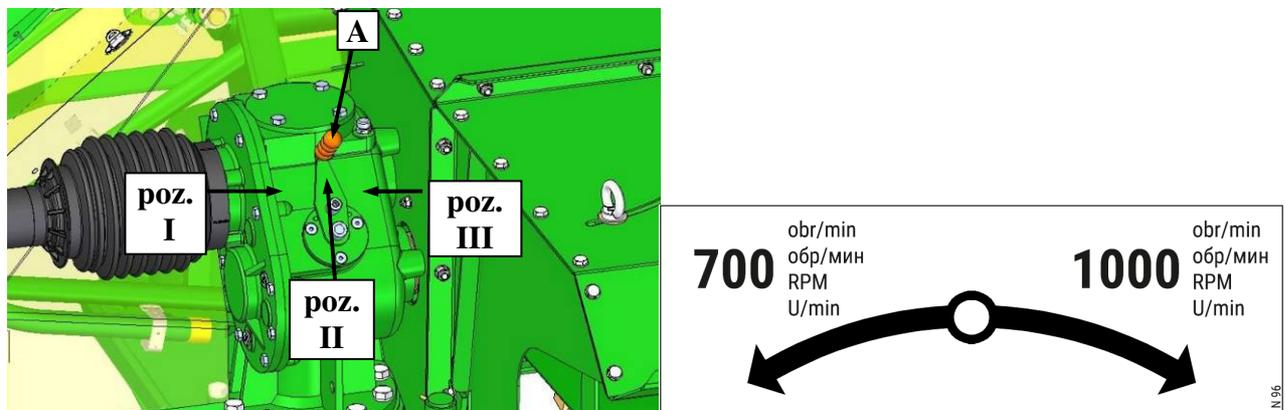

Fig. 37. Lever for adjusting conditioner's shaft rpm
Depending on the required intensity of grass conditioning, adjust the conditioner's shaft rotary rate. Speed of the conditioner roller can be adjusted between 700 and 1000 rpm using lever A (Fig. 37). To increase the shaft's rotary rate, switch lever (A) (Fig. 37) from I to III. Set the lever in middle position – II – to stop the shaft.